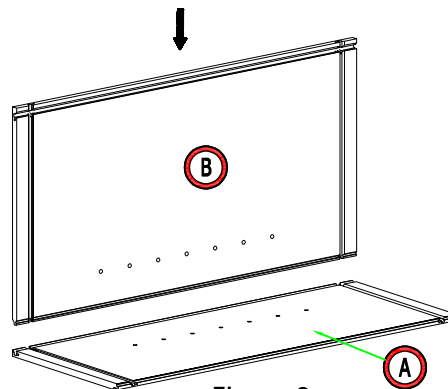

Figure 2
2. Install the side Panel-2: Insert the side panel-2 (B) into the groove of the side panel (A) and click it into Place. (Figure 2)